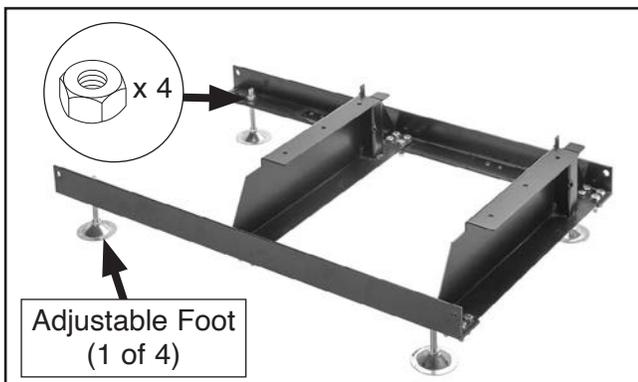

Figure 15. Inserting feet at front rail corners.
2. Thread (1) $\frac{1}{2}$ "-12 hex nut halfway onto each adjustable foot.
3. Insert (4) adjustable feet through holes in front rail corners, as shown in **Figure 15**, and secure with (4) $\frac{1}{2}$ "-12 hex nuts.